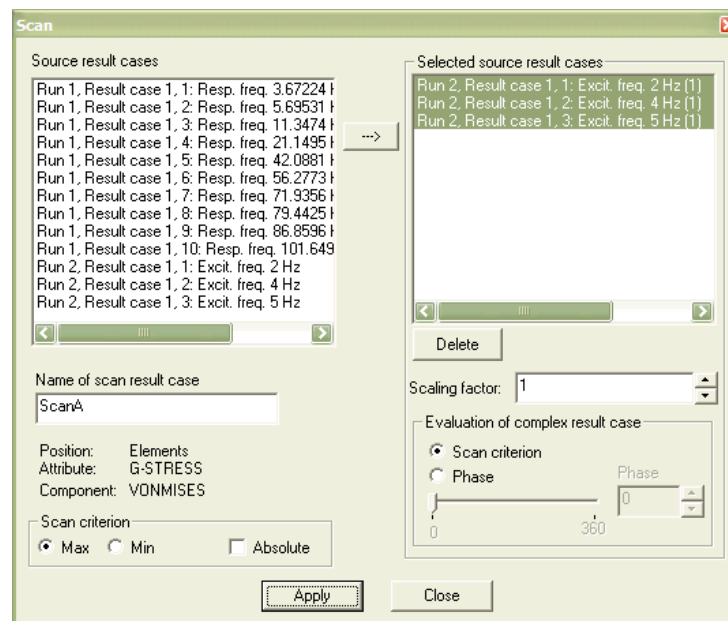

Figure 3.61 The Scan dialog for complex result
The Scan dialog, see Figure 3.61, appears in which Source result cases are transferred to the Selected source result cases list box. Select result cases in the Selected source result cases list box and take two actions: (1) adjust the Scaling factor (default 1) and (2) select a method for Evaluation of complex result case (normally you want the same evaluation method for all result cases). The alternatives are: